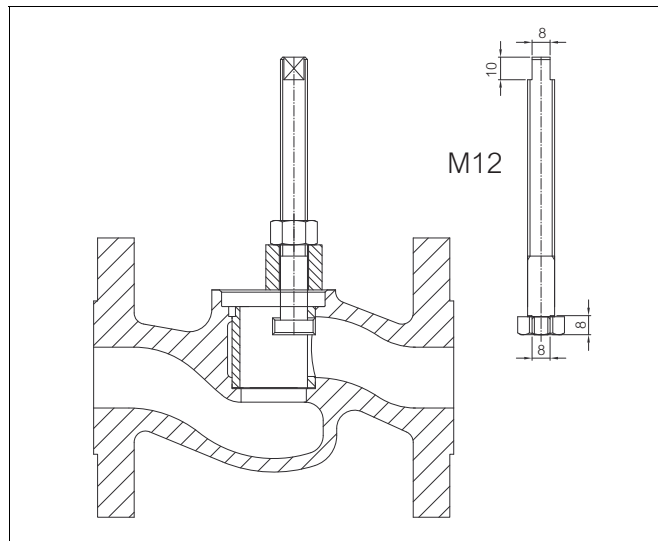

Fig. 7 Cage removal tool
- Remove the key (10) from the drive shaft (5) and gland nuts (18) with the optional spring package (15).
- Remove the bonnet nuts (17) and lift the bonnet (8) with the shaft and plug out of the body.
- Push the shaft until the thrust bearing (22) can be released from the groove of the shaft by lifting the support ring (23).
- Slide the support ring, sheet ring (70) and gland (9) away from the shaft.
- Remove the cage (7) using the removal tool as in Figure 7, where necessary.